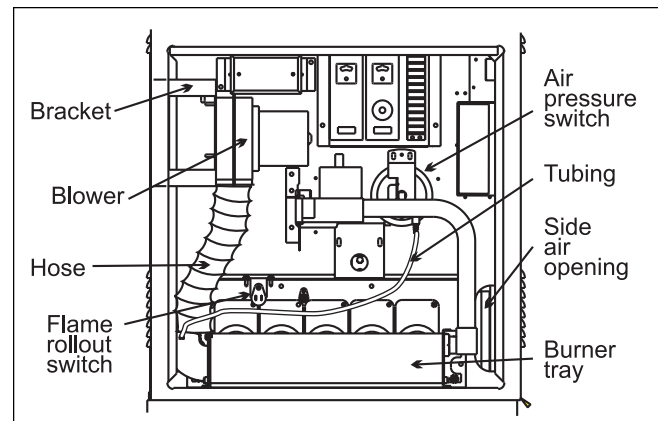

Figure 40. Controls Location.
2. Disconnect the air hose from the air blower (see Figure 40) and from the air inlet elbow.
3. Remove the screws holding the blower bracket (see Figure 40) off the inner front panel.